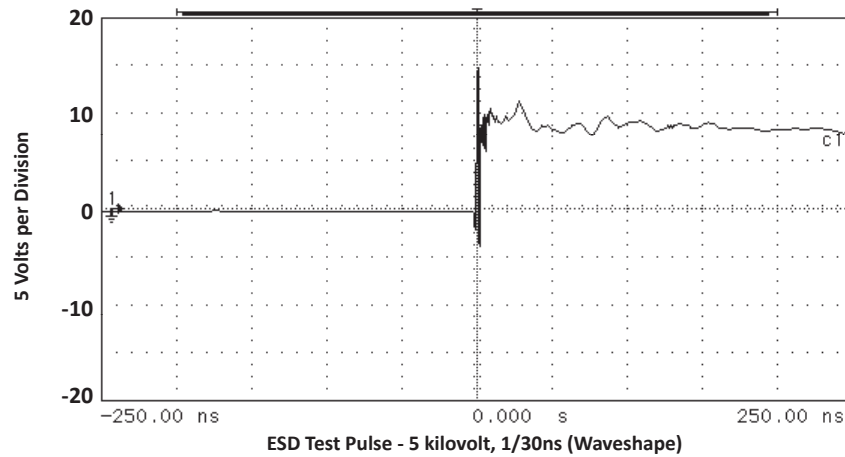

FIGURE 5
- As shown in Figure 5, REF 1 is connected to ground, REF 2 is connected to $+V_{CC}$ and input applies to $V_{CC} = 5V$, $V_{SIGN} = 30mV$, $F = 1MHz$.